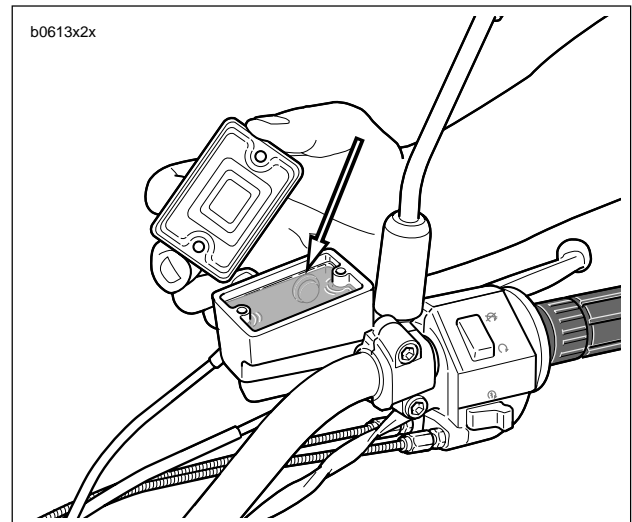

Figure 2-37. Brake Fluid Level
6. See Figure 2-37. With the master cylinder in a level position, add **D.O.T. 4 BRAKE FLUID**. Bring fluid level to within 1/8 in. (3.2 mm) of molded boss inside front master cylinder reservoir.